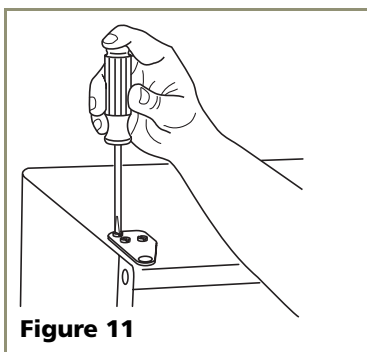

Figure 11
12. Fasten upper hinge to unit (three screws) (**Figure 11**). Partially tighten screws.